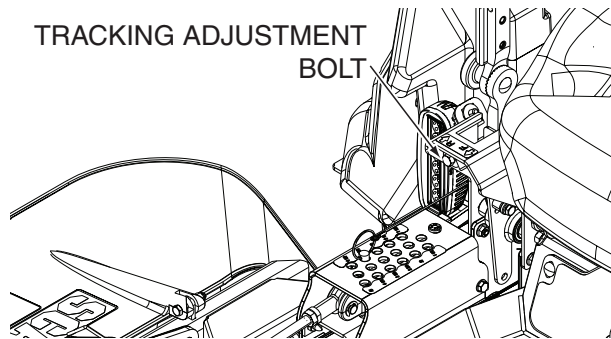

Figure 6-3. Tracking Adjustment
A. Stop the machine and place the steering control levers in the neutral position. Turn the tracking adjustment bolt for the LH pump inward (clockwise). This will cause the control rod to stroke the LH pump less, slowing down the LH wheel. See Figure 6-3.
A. Stop the machine and place the steering control levers in the neutral position. Turn the tracking adjustment bolt for the RH pump inward (clockwise). This will cause the control rod to stroke the RH pump less, slowing down the RH wheel. See Figure 6-3.